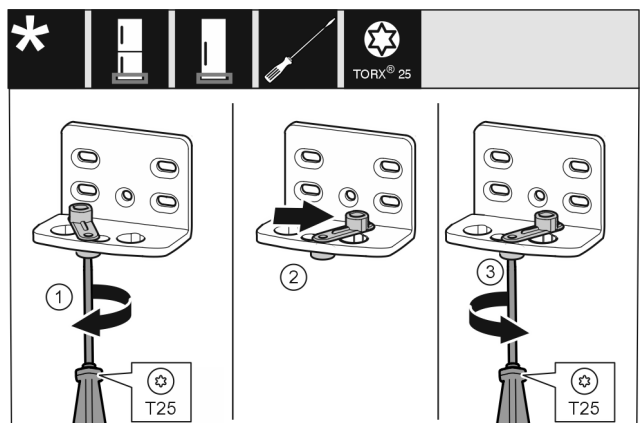

Fig. 12
- Use screwdriver to loosen the screw Fig. 12 (1).
- Lift the door closing aid Fig. 12 (2) and turn 90° clockwise in the hole.
- Tighten screw Fig. 12 (3) with screwdriver.